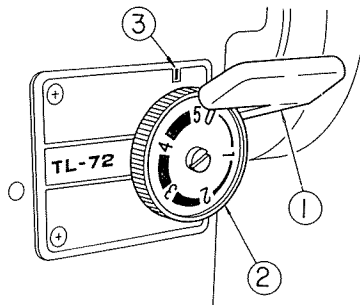

Fig. 14
14. Adjusting the stitch length (Fig.14)